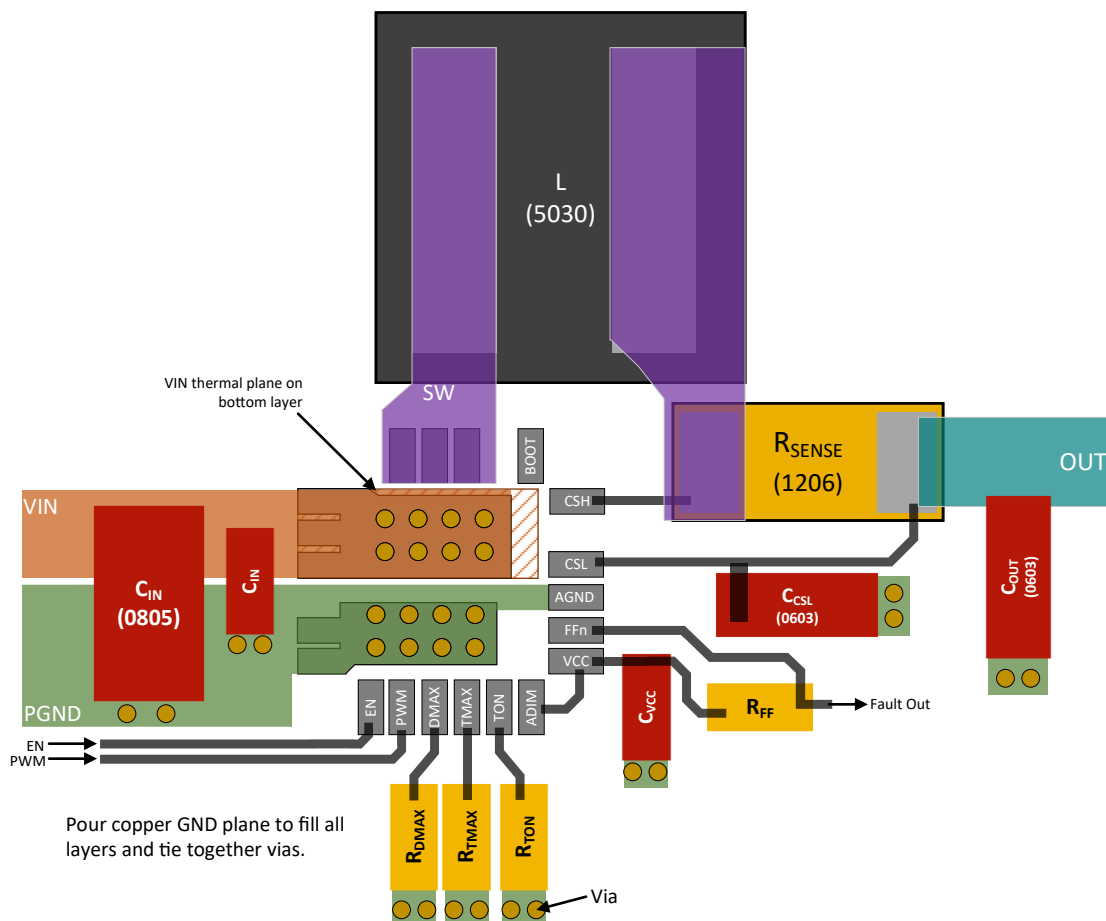

Figure 23: Sample PCB Layout
The APM80905 is designed to minimize electromagnetic (EM) emissions when proper PCB layout techniques are adopted. A good PCB layout is also critical for the APM80905 to provide clean and stable output voltages and current. Design guidelines for EMI/EMC-aware PCB layout and minimum $R_{\theta JA}$ are presented below. Figure 23 shows a sample PCB layout for the APM80905.